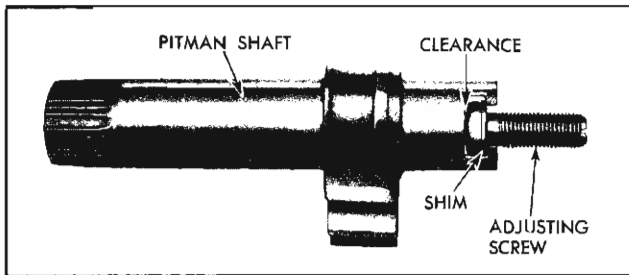

Fig. 9-18 Pitman Shaft and Adjusting Screw
4. Remove adjusting screw from slot in end of pitman shaft. Make sure shim found on adjusting screw remains with screw (Fig. 9-18).
5. Install pitman shaft adjusting screw and selective shim in pitman shaft (Fig. 9-18). **NOTE:** Screw must be free to turn, but have no more than .002" end play. If end play of screw in slot is too tight or too loose, select new shim to give proper clearance. Shims are furnished in four thicknesses: .063", .065", .067", and .069".